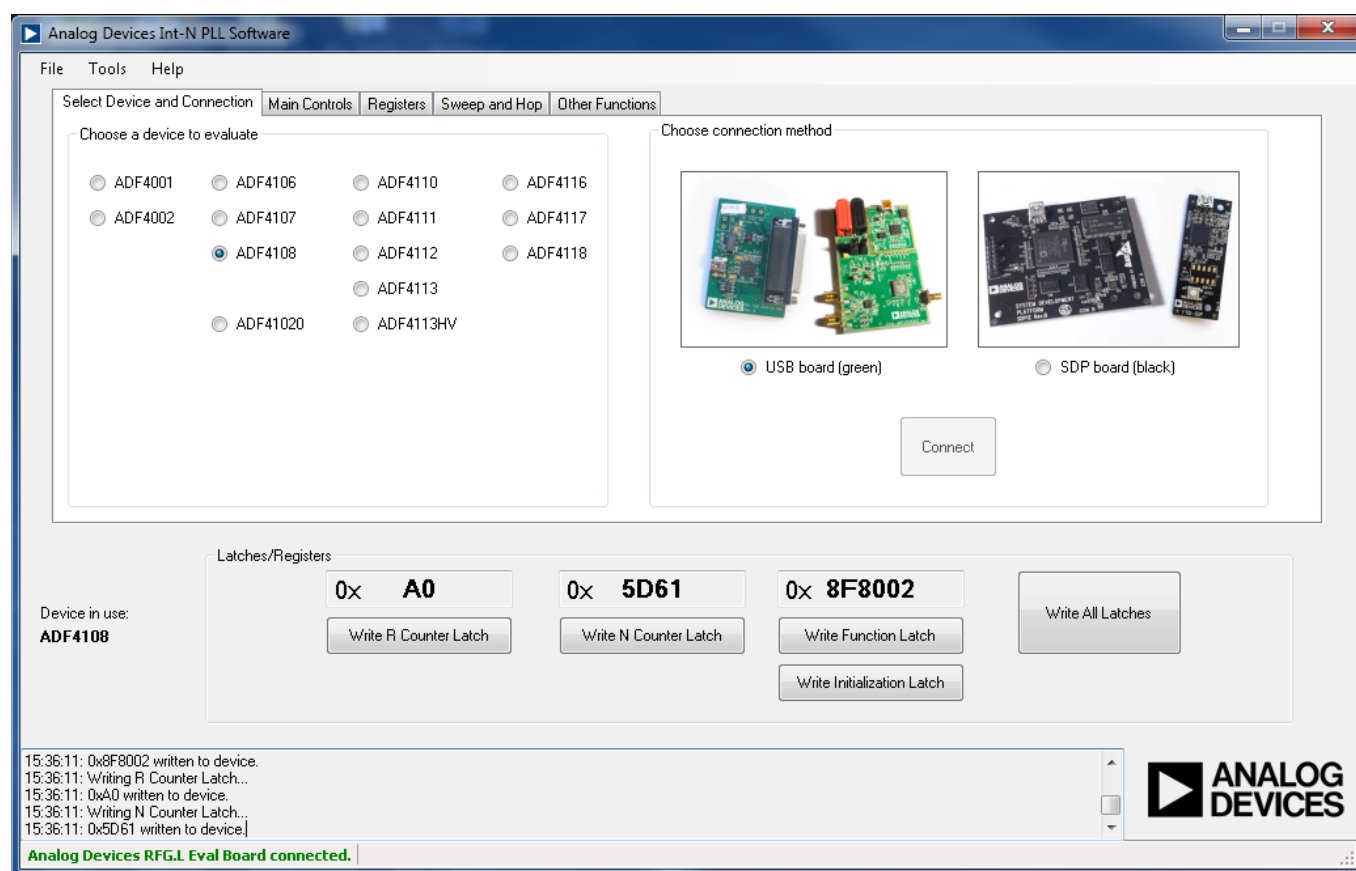
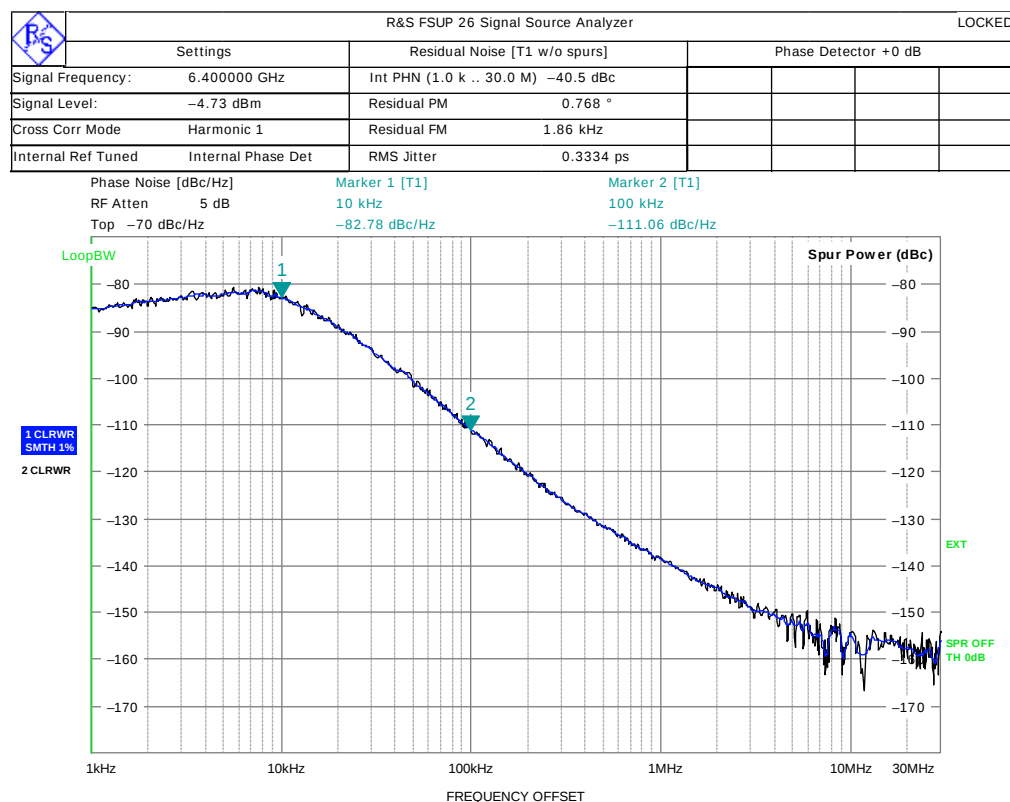

Figure 3. Int-N Software, Main Window—Select Device and Connection
Figure 5. Spectrum Analyzer Display
| Deleted Evaluation Board Setup Procedure and Figure 3 toFigure 6; Renumbered Sequentially ..... | 5  |
| Deleted Hardware Description Section and Figure 3,Renumbered Sequentially.....                                                                                                                                      | 3 |
| Added Evaluation Board Setup Procedure Section SoftwareInstallation Section, and Figure 3 to Figure 5.....  | 5  |
Confirm that **Analog Devices RFG.L Eval Board connected** is displayed at the bottom left of the window (see Figure 3). If this message is not displayed, the software cannot connect to the evaluation board.
10. In the **Main Controls** tab in the main window of the evaluation board software, set the VCO center frequency in the **RF VCO Output Frequency** text box (the example in Figure 5 uses a 6.4 GHz VCO). Set the **PFD Frequency** text box as specified in ADIsimPLL, and program the **Reference Frequency** value to equal the reference connected to the REFIN SMA Connector (or the TCXO). See Figure 6 for the suggested setup.
11. Measure the output spectrum. Figure 5 shows 6.4 GHz phase noise output.